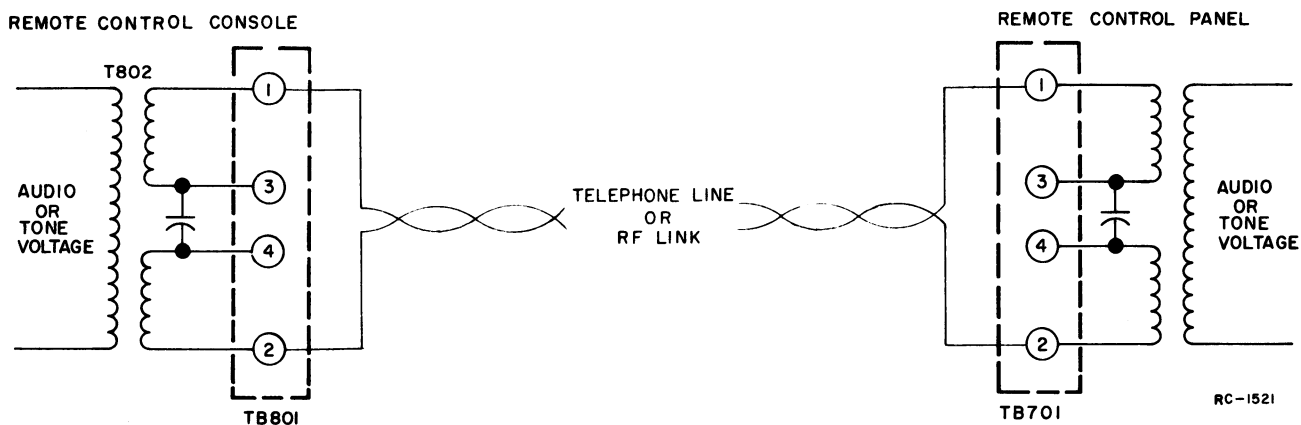

Figure 3 - Tone Control Wire Line Connections
- 1 For Tone Control - Any transmission circuit capable of handling audio frequencies in the 300 to 3000-cps range can be used. It is not necessary to observe polarity in wire line connections. Make connections to TB801 as shown in Figure 3.